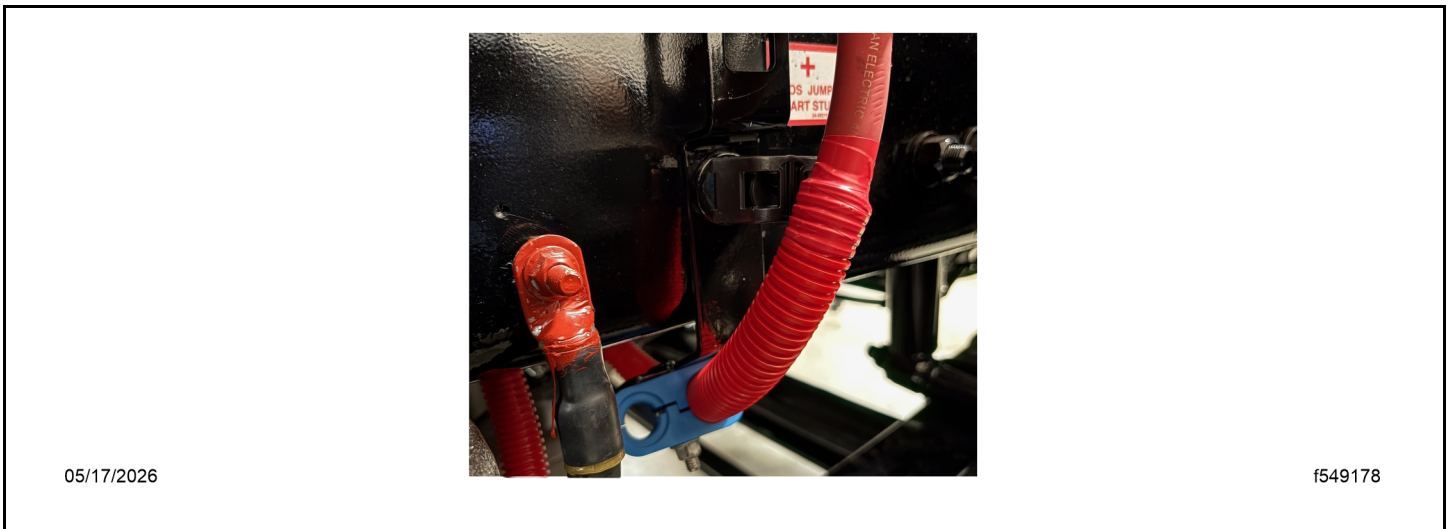

Fig 17, Routing Over the Tie Block
27. Install the 5/8 inch (16 mm) tie block (23-13805-062) on the bottom isolator bracket frame bolt so the cable routing can be set passing by it. See Fig. Fig. 17.